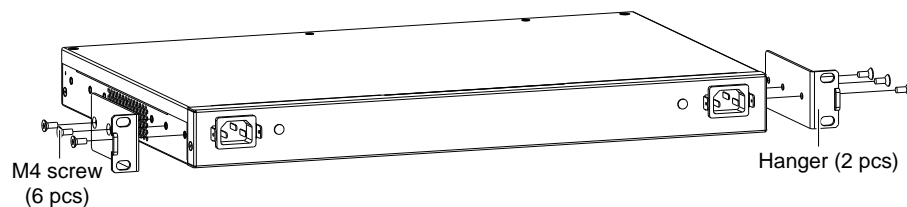
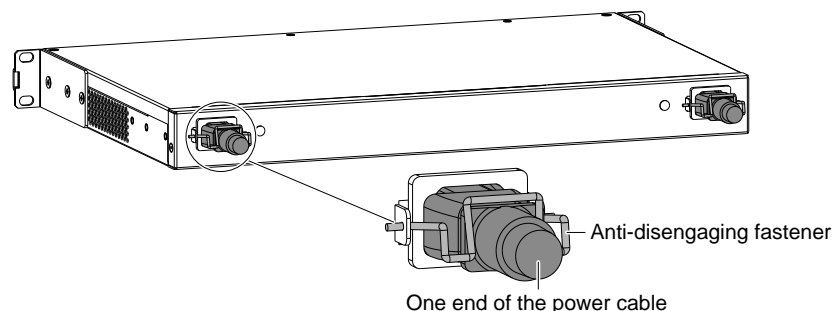

Figure 2-2 Installing the hangers on the back end
Figure 2-3 Anti-disengaging fastener
2. Fasten the hangers onto both sides of the RDU host with accessory M4 screws; there are two methods for installing the hangers: installing on the front end and installing on the back end, as shown in Figure 2-2 and Figure 2-3.
1. Select a C14 or national standard cable (RDU-A G2 accessories) based on the port type of the power supply end. Take out the corresponding power cable, and insert one end of the power cable into the power input interface of the RDU-A G2 host, and install the anti-disengaging fastener shown in Figure 2-3.